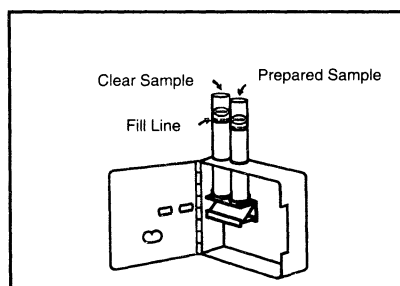

Figure 2a
3. Place the lengthwise viewing adapter in the color comparator as shown in Figure 2a.
5. Place the tube containing the prepared water sample into the comparator opening labeled Prepared Sample Position in Figure 2a.
6. Fill the other sample tube with untreated water or a reagent blank to the line underlining "Cat. 1730-00." Insert this tube into the comparator opening labeled Clear Sample Position in Figure 2a.